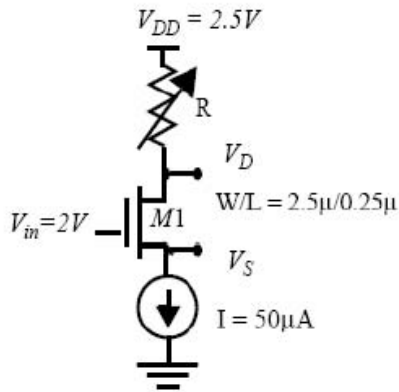

Figure 0.4 Test configuration for the NMOS device.
1. An NMOS device is plugged into the test configuration shown below in Figure 0.4. The input $V_{in} = 2V$. The current source draws a constant current of $50 \mu A$. R is a variable resistor that can assume values between $10k\Omega$ and $30 k\Omega$ (مقدارش میتونه بین ۱۰ کیلو اهم و ۳۰ کیلو اهم باشه). Transistor M1 experiences short channel effects and has following transistor parameters: $k' = 120 \cdot 10^{-6} V/A^2$, $V_T = 0.3$, and $V_{DSAT} = 0.6V$. The transistor has a $W/L = 2.5\mu/0.25\mu$. For simplicity body effect (یعنی رابطه ولتاژ بدنه و ولتاژ آستانه) and channel length modulation can be neglected. i.e $\lambda=0$, $\gamma=0$.